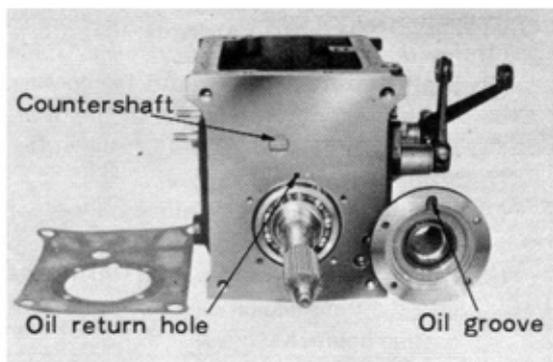

Fig. 2-72 Front Bearing Installation
- (1) Insert the Counter Gear Roller Guide Shaft [09311-20011] into the counter gear. Insert into each end of counter gear, the washer (1) and 20 needle rollers after coating them with MP grease.
- (2) Install the spacer (3) into each end of counter gear.
- (3) Install the side thrust washer (4) (brass) into the transmission case front side after coating it with MP grease.
- (4) Place the counter gear inside the case.
- (5) Set the extension housing cutaway to the counter gear shaft position and insert the counter gear shaft from the front side.
- (6) Insert the side thrust washer into the rear end of counter gear and insert the counter gear shaft into the case.
- Note :** Insert so that turn lock part at counter shaft front end will be horizontal. (See Fig. 2-72)
- (7) Measure the thrust clearance.